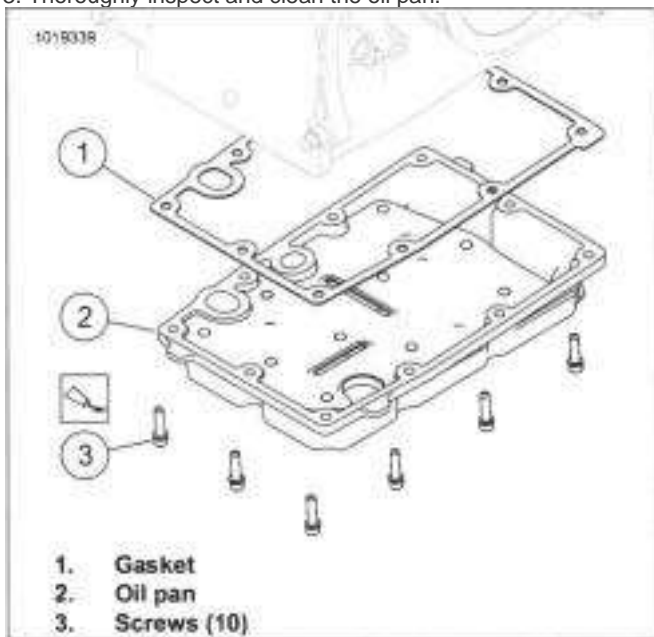

Figure 4-79. Oil Pan Assembly
2. See Figure 4-79. Remove oil pan.
- a. Remove 10 screws (3).
- b. Remove oil pan (2).
- c. Discard oil pan gasket (1).